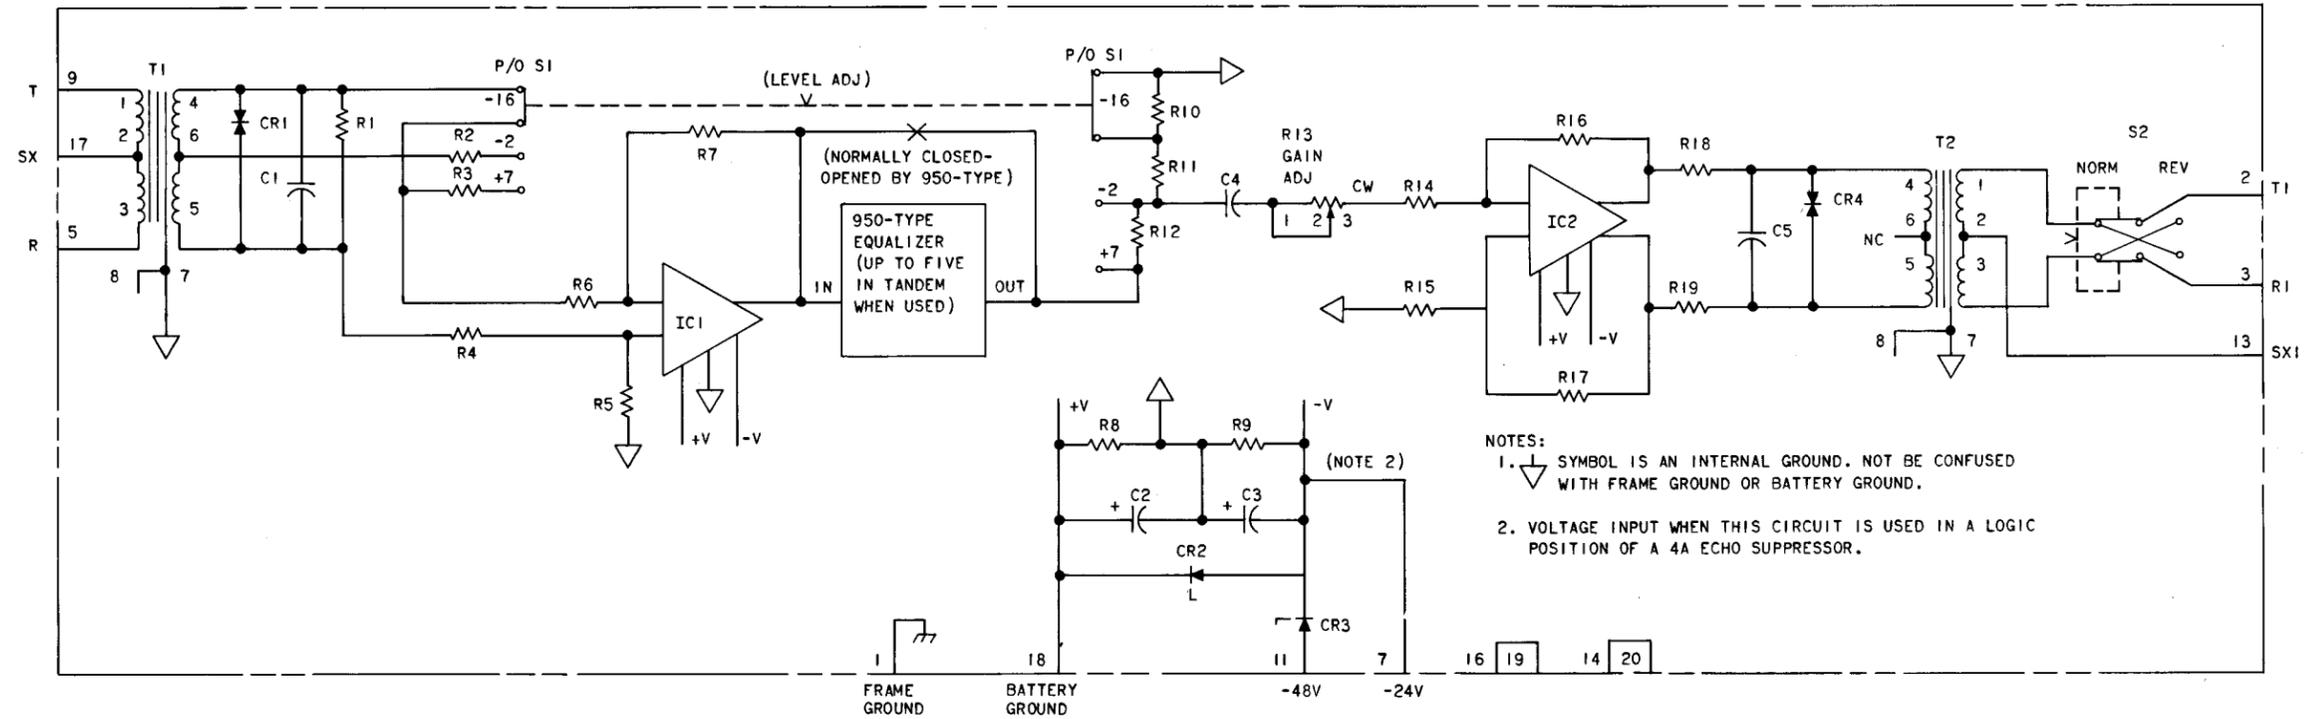

Fig. 5—J-99347AA VF Amplitude and Delay Equalizer Circuit (J-Board Equalizer)
**3.01** A circuit sketch of the J-board equalizer is shown in Fig. 5. Both the input and output circuits are transformer-coupled for isolation and to provide a balanced impedance of 600 ohms. The integrated circuits are protected from external surge voltages by diodes across the transformer secondary windings. Gain is provided by integrated circuit operational amplifiers which are connected in feedback loops. Compensation is provided internally in the amplifier chips.